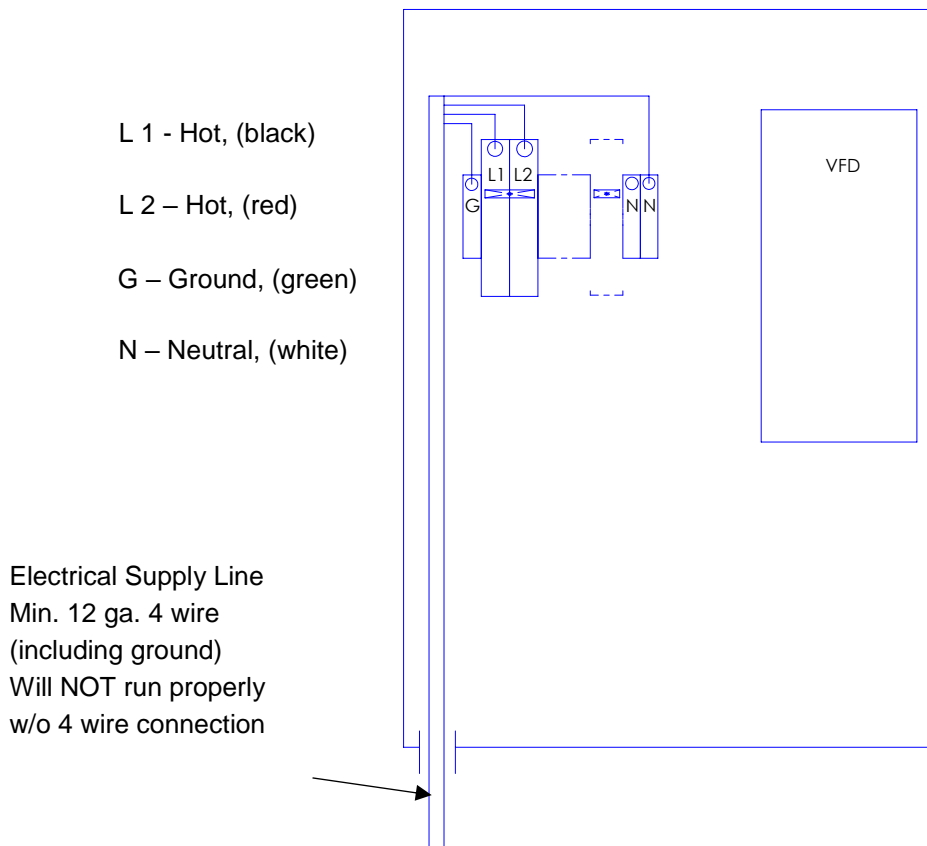

Figure 5: Electrical connections SPM301HD
The **SPM301HD** requires a 20 Amp, 208-230 Volt, single phase dedicated circuit and cord. A minimum 12/4 cord, to be connected to a plug or a disconnect is required. The circuit must include a (N) neutral (common, white), two powered lines (L1 & L2), (red & black), and one (G) ground wire (green or yellow and green). See wiring diagram below (Fig. 5) and inside electrical enclosure on the SPM301HD.